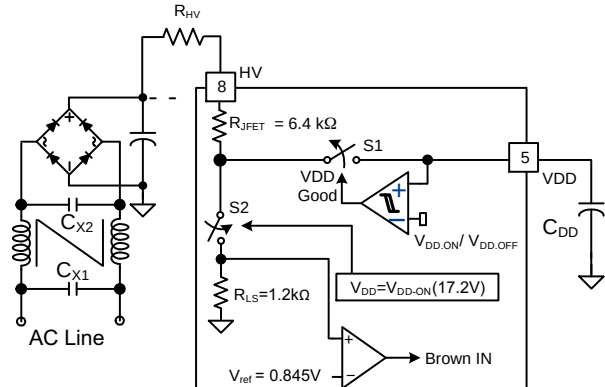
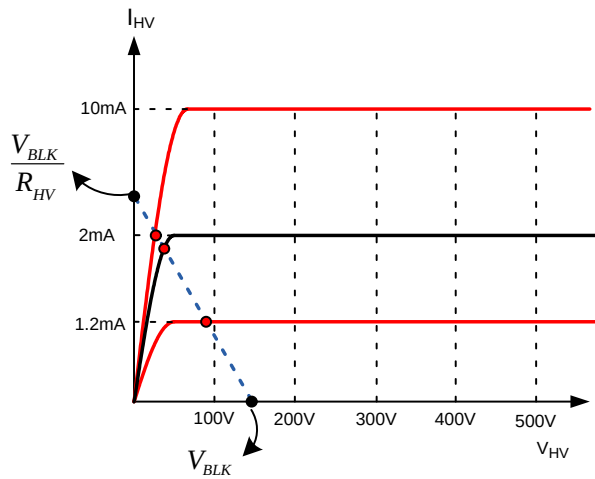

Figure 31. HV Startup Circuit
Figure 32. Characteristics of HV Pin
Figure 31 shows the high-voltage (HV) startup circuit. An internal JFET provides a high voltage current source, whose characteristics are shown in Figure 32. To improve reliability and surge immunity, it is typical to use a R_{HV} resistor between the HV pin and the bulk capacitor voltage. The actual current flowing into the HV pin at a given bulk capacitor voltage and startup resistor value is determined by the intersection point of characteristics I-V line and the load line as shown in Figure 32.
charge the hold-up capacitor, C_{VDD} , through R_{HV} . When the V_{DD} voltage reaches V_{DD-ON} , the sampling circuit shown in Figure 31 is turned on for t_{HV-det} (100 μ s) to sample the bulk capacitor voltage. Voltage across R_{LS} is compared with reference which generates a signal to start switching. If brown-in condition is not detected within this time, switching does not start. Equation (9) can be used to program the brown-in of the system. If line voltage is lower than the programmed brown-in voltage, FAN604P goes in auto-restart mode.